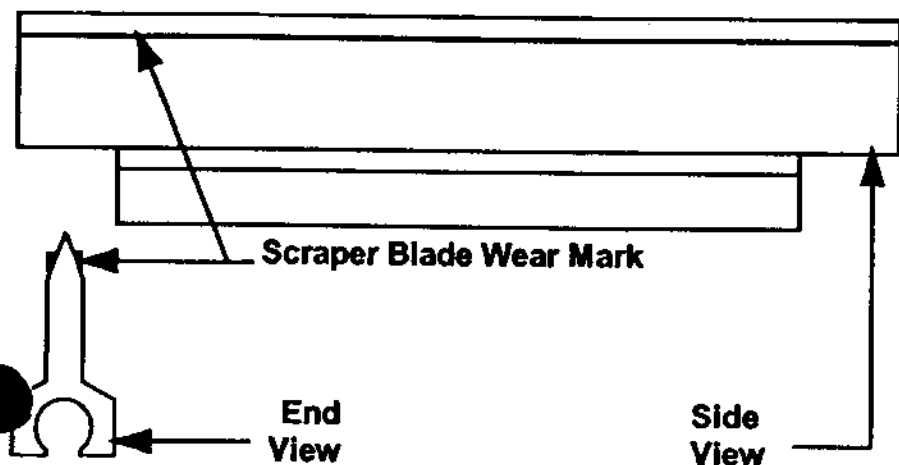

Fig. 47
**DISCONNECT THE MACHINE FROM ITS POWER SOURCE(S) BEFORE PERFORMING ANY ROUTINE MAINTENANCE. PERSONAL INJURY OR DAMAGE TO THE MACHINE COULD RESULT IF THIS PRACTICE IS NOT OBSERVED.**
**Periodically:** Inspect the scraper blades (Fig. 47) to see that they are straight and sharp. If worn, damaged or warped, the blades will not scrape the cylinder walls correctly and the freezing capacity will be reduced. Clean the drip chute assembly (Fig. 48) with warm water and detergent solution.